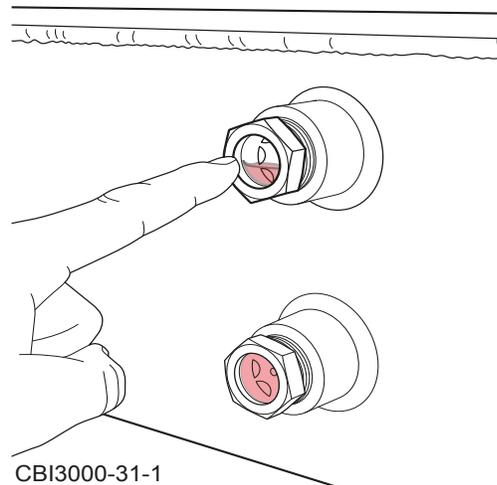

Figure 6.36 - Inspect Coolant Level
2. Inspect Coolant Level - Inspect the coolant level at the site gauge on the top of the expansion tank. The coolant should be visible $\frac{3}{4}$ of the way to the top of the sight glass (Figure 6.36). The level should never be above the sight glass or lower than half way up the sight glass. Excessively low coolant levels may trip the low coolant level fault in the engine computer and disable the engine.